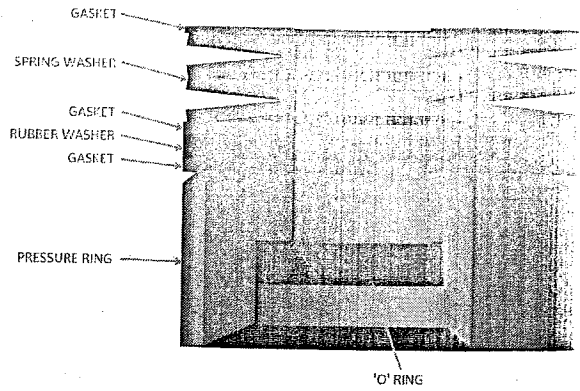

Fig 5.2
8.3.1.7 Make 2 groups of "pressure ring assembly" consist of spring washer (4Nos.), rubber washer (1Nos.), gasket (3Nos.), pressure ring (1No.) and 'O'-ring (1No.) as shown in the figure 5.2